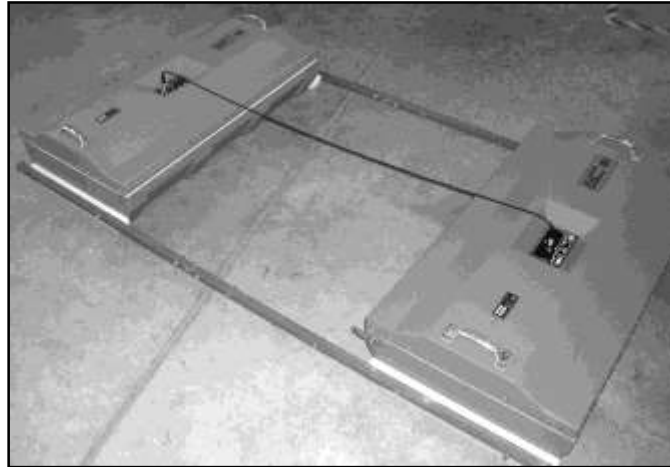

Figure 3: Hardware Setup for the 3207 Bi-Static using the co-axial transmit trigger cable.
The Bi-Static mode is configured by separating the 3207 transmitter and 3207 receiver elements by a minimum of three (3) feet with the fiberglass tie bar extensions (Figure 3). The Model 778 transmitter should be plugged into the 3207 element that will lead as you drag the antennas. Plug the Model 769DA2 into the element that will follow. Connect the two electronic cards together with the longer of the two coaxial transmitter cables or with the Model 570 Fiber Optic Link (recommended). Attach the control cable to the Model 769DA2. If your control cable has a stress-relief clip, attach it to the metal eye bolt on the 3207 case.